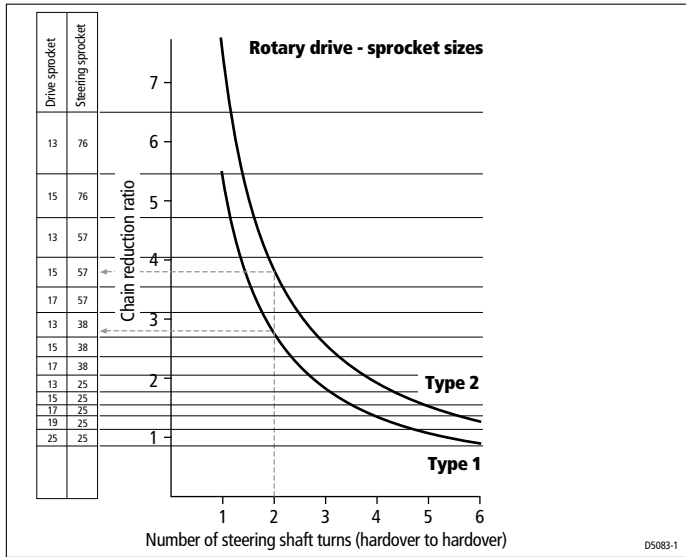

Figure 3: Rotary drive sprocket sizes
- use *Figure 3* to determine the sprocket sizes required at the steering gear shaft (steering sprocket) and at the rotary drive (drive sprocket) by:
- for example, if the steering shaft turns twice when the rudder moves from hardover to hardover you will need (as indicated by the dotted lines on *Figure 3*):
Note: *The sprocket sizes in Figure 3 provide good steering performance for most boats. If you think your boat may have unusual steering characteristics, contact Raymarine's Technical Services Call Center or an Authorized Service Representative for advice.*